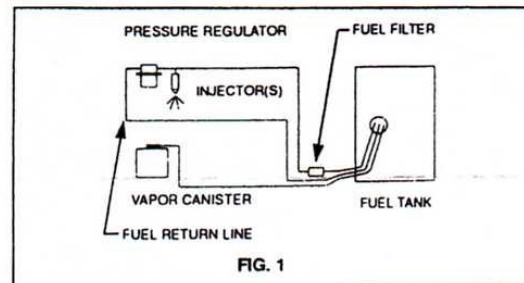

FIG. 1
3) Once the vehicle is lifted and supported, an alternate method of fuel removal from the tank can be implemented. Determine which line is the fuel return line going back to the fuel tank. (See fig. 1) Three lines are attached to the bracket. The first one is the feed line which goes to the injector(s) and has the fuel filter in it. The second one is the return line from the injector(s). The last one is the vapor line which comes from the vapor canis-